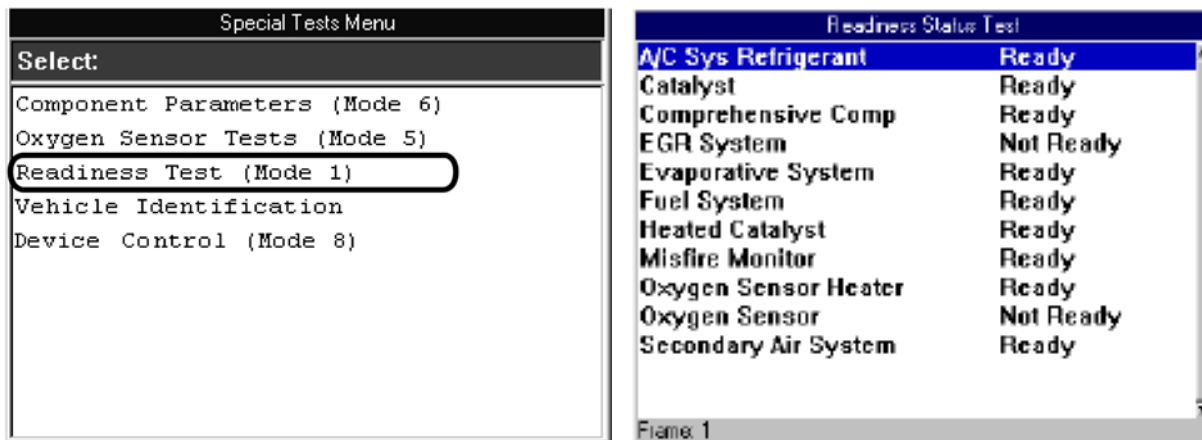

Figure 11.18: Special Tests Menu Screen and Readiness Status Test Screen
- 2 Select **Readiness Test** and press the **ENTER** key. This displays the Readiness Status Test screen as shown in figure 11.18.